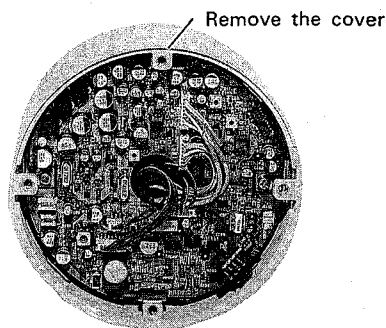

Fig. 2-4
- Remove the cover from the camera. (Fig. 2-4)